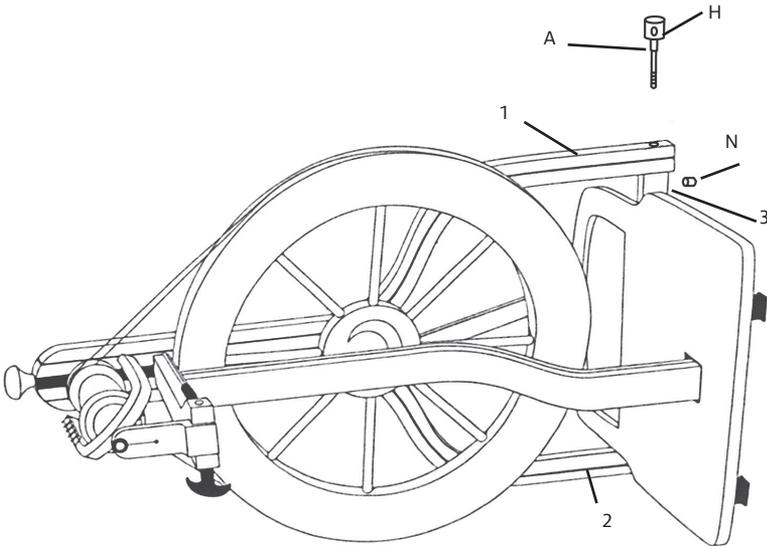

FIGURE 1
1. Place the spinning wheel on its left side (figure 1).
2. Remove the bronze bolt from the bottom of the right leg (1). Use the enclosed hex wrench.
3. Slip the axle bolt (A) through the hole in the leg and screw it into the barrel nut (N) in the rear leg brace (3).
4. Take the blunted nail and slip it through the cross hole (H) in the axle and use it to tighten up the axle. Remove the nail.
5. Turn the spinning wheel over on its right side and remove the bronze bolt on the bottom of the left leg (2).